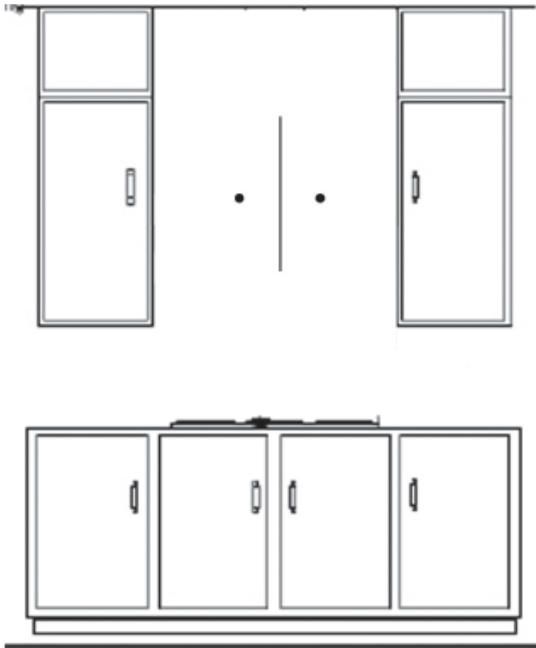

Figure 1
1. Based on the width of your hood, measure to find the center of the wall. Mark a line and measure to the left and right to find your two mounting points. Make sure the mounting points are level and mark the with a pen. It is recommended to install the hood into wood supports to hold the weight of the hood. *Figure 1*